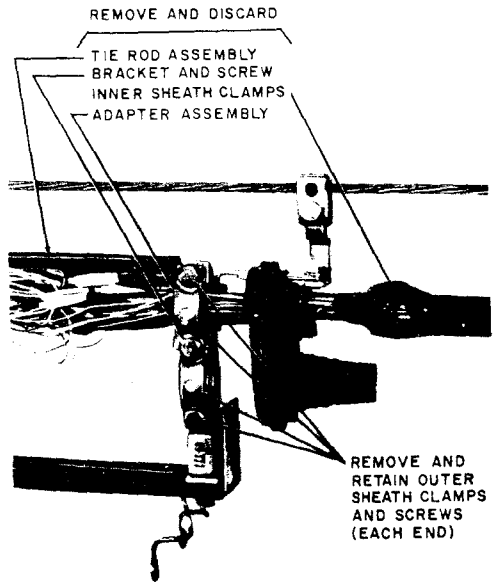

Fig. 2—Hardware Removal
- (1) Remove and retain the existing cover and place a temporary bond across the sheath opening.
- (2) Remove and retain top and bottom machine screws securing the outer sheath clamps. Remove and retain outer sheath clamps. (Fig. 2).
- (3) Remove and discard the center bracket and machine screw, the tie bar, the inner sheath clamps, and the 138A adapter assembly (1B1 only) (Fig. 2).
appropriate. Wrap core wrap with a half-lapped layer of vinyl tape to prevent chafing (Fig. 2).